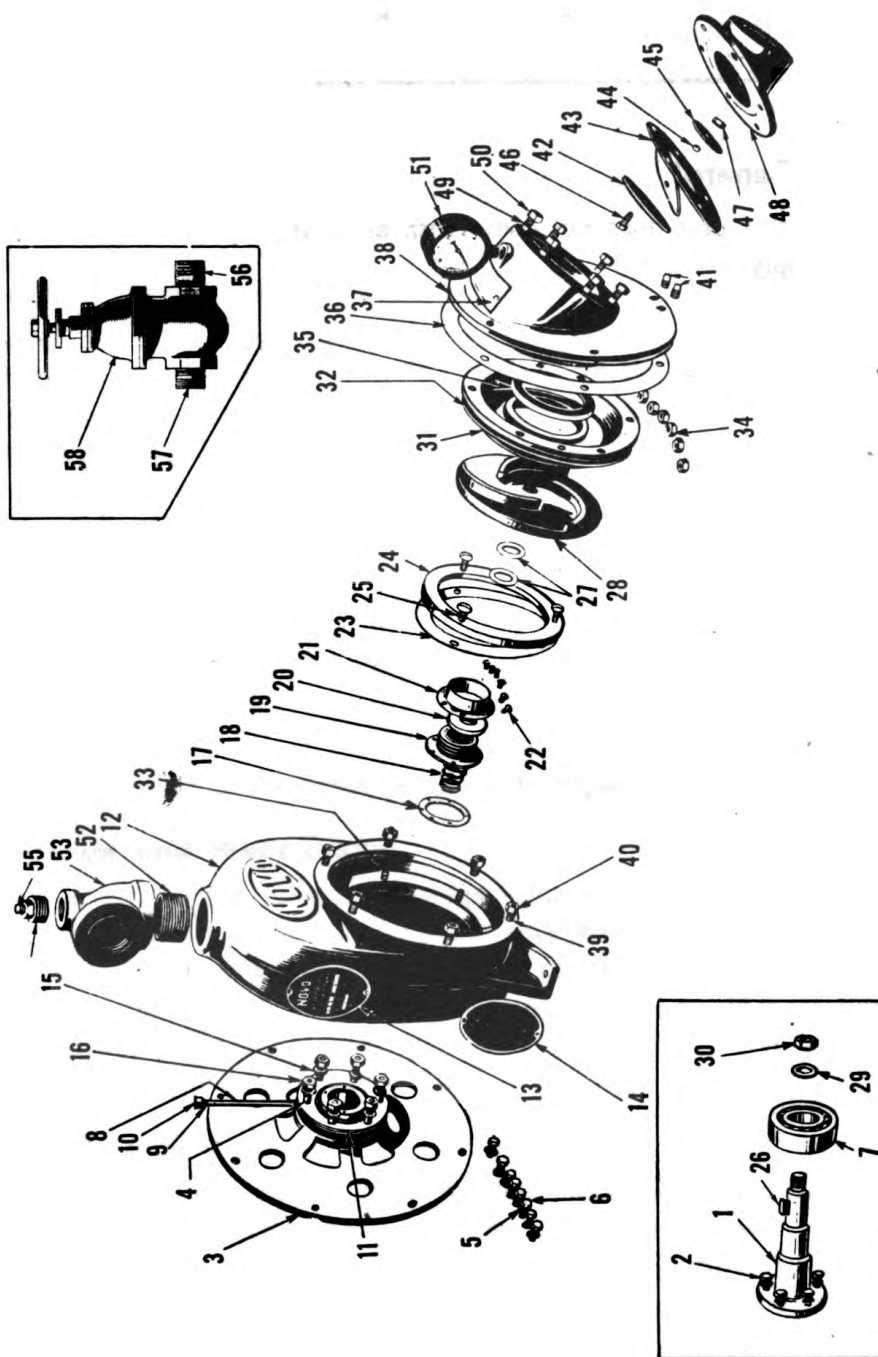

Figure 11. Exploded view of pump.
41. Removal and Disassembly (fig. 11)
a. Remove the gate valve (58) and two nipples (57 and 56) from the discharge tee (53). Remove the pipe plug (55), reducing bushing (54), pipe tee (53), and pipe nipple (52) from the pump case (12). Remove the vacuum gauge (51) from the pump cover.
b. Remove the hex nuts (50) attaching the suction flange to the case, and remove the suction flange (48), and valve assembly from the studs (49). Remove the hex nut (47) attaching the valve parts together and disassemble the cap screw (46), outer valve plate (45), valve screw spacer (44), rubber suction valve (43), and inner valve plate (42). Remove the two pipe plugs (41) from the pump casing cover.
c. Remove the hex nuts (40) from the casing cover studs (39), remove the cover (37), outer wear plate gasket (36), and outer wear plate seal (35). Remove the hex nuts (34) from the outer wear plate studs (33), remove the gasket (32), and outer wear plate (31). Remove the impeller shaft nut (30), lock washer (29), impeller (28), impeller shims (27), and Woodruff key (26) from the stub shaft (1).